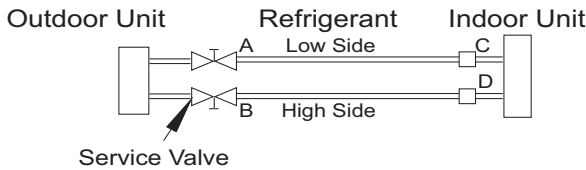

Fig. 37 —Service Valve
1. Completely tighten flare nuts A, B, C, D, connect the manifold gage charge hose to a charge port of the low side service valve (see Fig. 37).